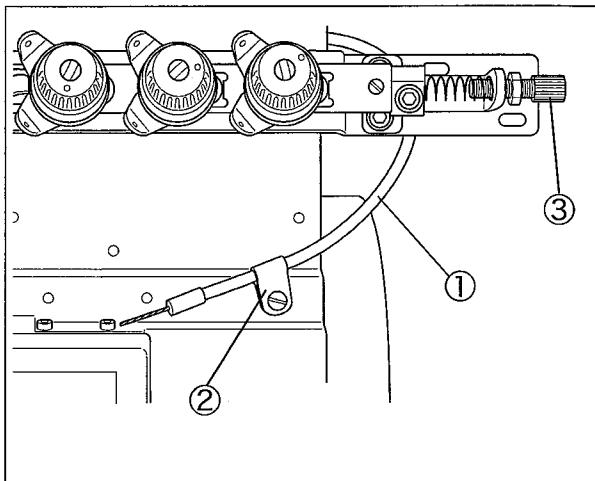

Fig. 1
1. Remove the cord clamp②.
2. Make sure that the wire guides③④ have been fixed by the lock nuts⑤⑥ at the middle screw part of the wire guides③④. (Fig. 1, 3)